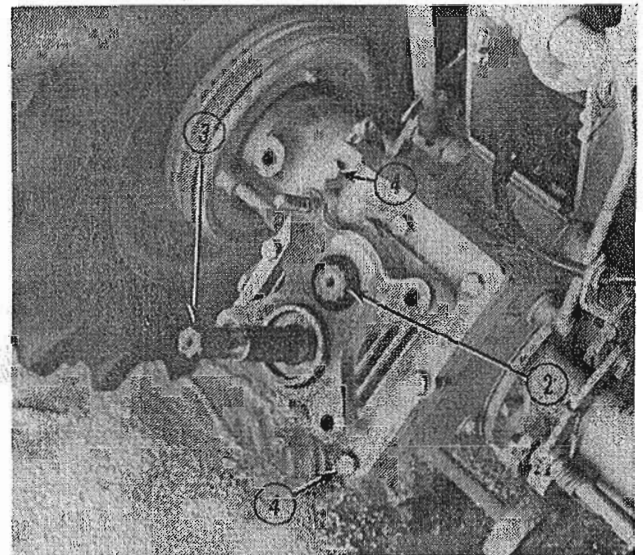

FIG. 1
1. The rear ground drive pinion shaft (2, Fig. 1).
2. The PTO input shaft (3, Fig. 1).
3. All seals and bearings for these (2) shafts.
Remove (6) 10 x 35 mm. bolts and (2) 10 mm. special shoulder screws (4, Fig. 1) that secure the cover to the rear case.
Remove the cover, with the PTO input shaft installed into it (3, Fig. 1). Be sure that the needle bearing in the aft end of the PTO input shaft is in place.